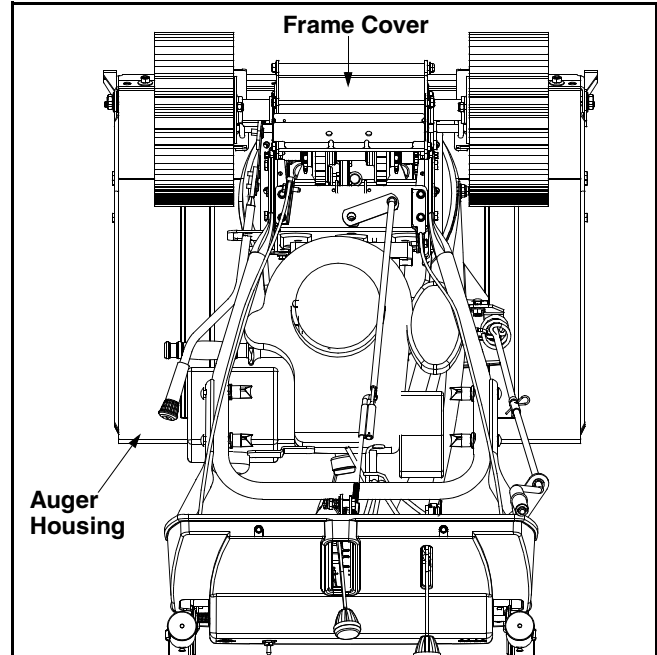

Figure 8
- Tip the snow thrower forward, allowing it to rest on the auger housing. See Figure 8.